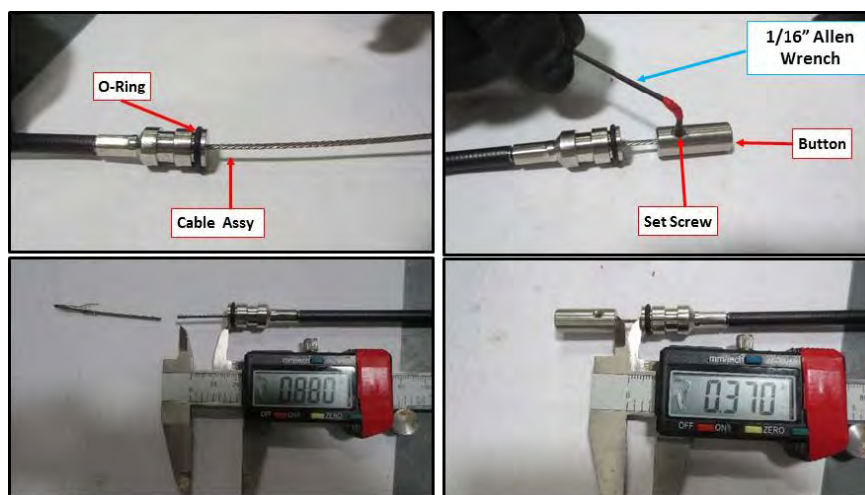

FIGURE 19-12
12. Install O-Ring (2-011 N674-70) and cut cable assembly to length. (See Figure 19-12.)
13. Once the gap is set, install the set screw (90251A141) into the button and tighten it with 1/16" Allen wrench. (See Figure 19-12.)
14. Slide the Wing Hang Assembly through the Wing Hang Housing and feed the cord through the Trailing Edge (TE) light bucket. (See Figure 19-12.)